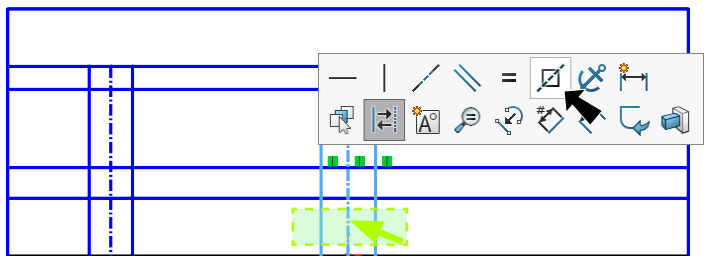

Fig. 8
Step 14. **Drag a selection other set of vertical lines at Origin** . Click **Make Symmetric**  on the context toolbar, **Fig. 8**.